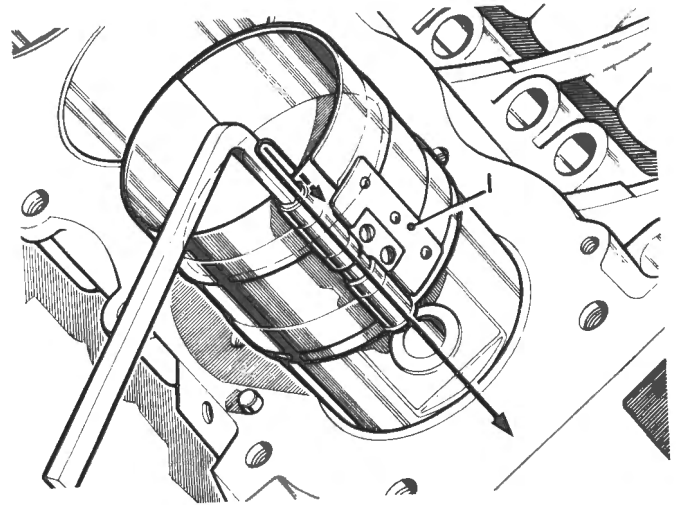

Fig. D-85
- 4 Space the piston ring gaps around the piston and liberally coat with light engine oil, and compress rings with a suitable ring compressor. Fig. D-85.